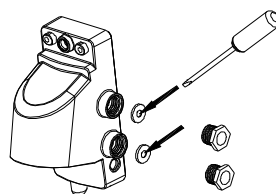

FIGURE 9
2) Unscrew one of the cable glands and using a suitable tool pierce a hole in the cable grommet. Route the HO5RNF supply cable through the cable gland and grommet (FIGURE 9).